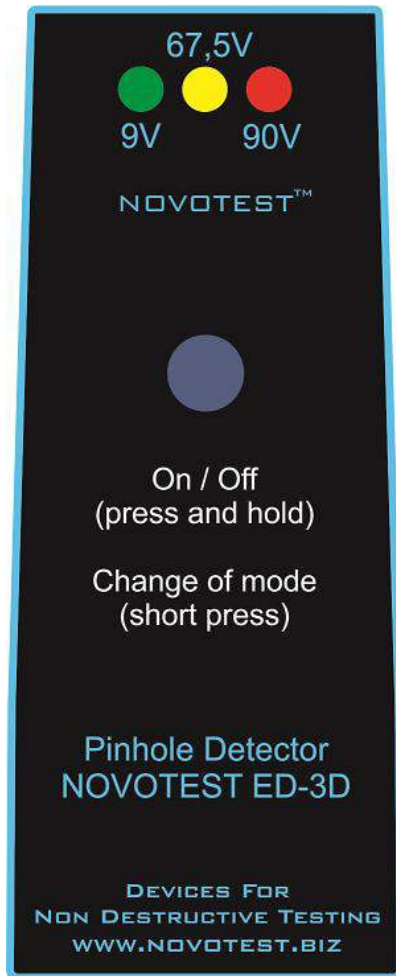

Figure 1. Bodies of indication and control
5.2. Bodies of indication and control are shown on fig.1.